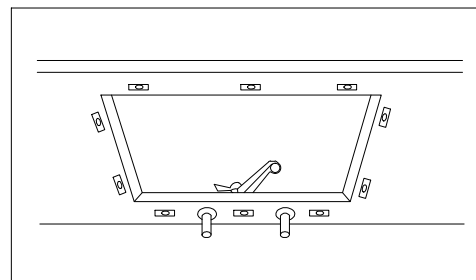

Figure 3
5. Locate the drill holes on the underside of the countertop, approximately 1" from edge of the sink to be installed. Holes should be evenly spaced approximately 6" to 8" apart starting from every corner as shown in Figure 3. It is recommended to install a faucet at this point before installing the sink.